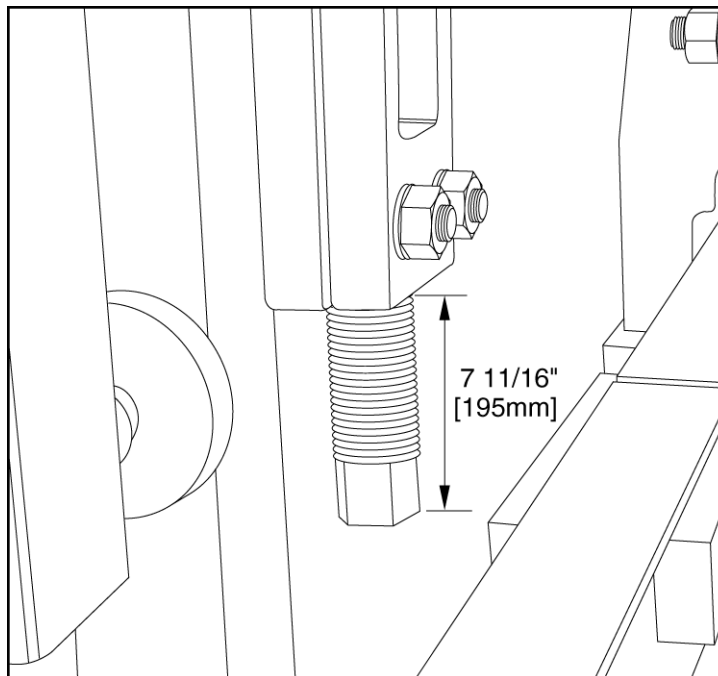

Figure 4.28 UPPER HEIGHT STOPS
4.2.6 Adjust the upper height stops so that **7 11/16" [195mm]** extend past the bottom of the castings as shown on figure 4.28.